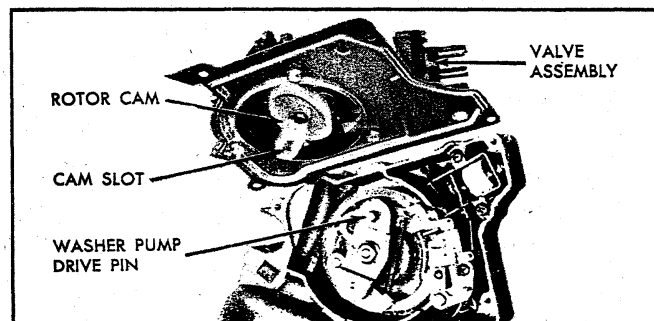

Fig. 93 - Washer Pump
An electric washer pump is mounted on the gear box section of the wiper and is driven by the wiper unit gear assembly (fig. 93).
7. Make sure wiper arms and wiper motor are both in the parked position; then remove the wiper transmission retaining clip and disconnect both transmission and spacer from crank arm (fig. 93).